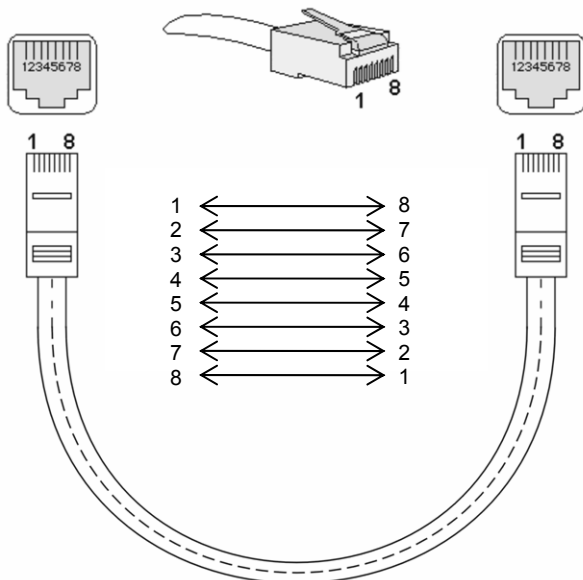

Figure 2: Modular 8-pole communication cables with 8 pole RJ45 connectors, cross wired
- b. After approximately 2 seconds the red "low battery" indicator of the DC/AC-inverter will illuminate. All other indicators are off. This indicates a good communication between this DC/DC converter and the DC/AC-inverter. If the red "low battery" indicator of the DC/AC-inverter does not illuminate, check the installation of the modular communication cable between this DC/DC converter and the DC/AC-inverter. See chapter 5.2 and figure 2 for specifications or see chapter 5.4.2, step 4 for correct installation
Modular communication cables are disconnected or wrong communication cable(s).	See chapter 5.2 and figure 2 for specifications. See chapter 5.4.2, step 4 for correct installation.